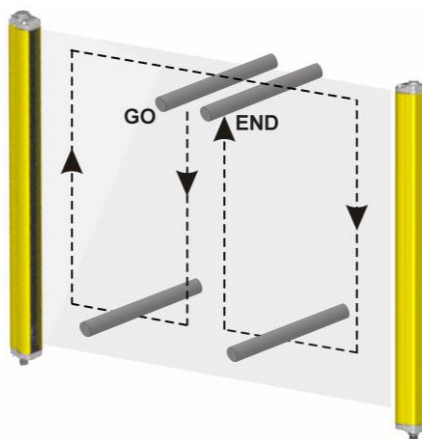

Figure 16 – Scheme for checking the function
- The AOPD remains in OSSD OFF state (➡) during beam interruption along the entire detection zone, using the suitable “Test Piece” and following the Figure 16 scheme. The suitable “Test Piece” has one dimension identical with the resolution of the AOPD, a cylinder with a 14 mm diameter for a light curtain with a 14 mm resolution for example.